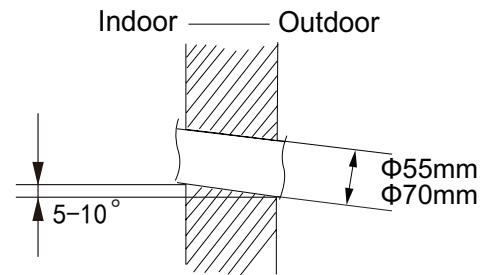

Fig. 2
- (2) When installation is finished, pull the mounting plate by hand to confirm whether it is fixed tightly. The force distribution among all screws should be uniform.
- (3) Drill a piping hole with a diameter of  $\Phi 55\text{mm}$  or  $\Phi 70\text{mm}$  at the selected outlet pipe position. To ensure smooth drainage, slant the piping hole on the wall slightly downward toward the outdoor side with a gradient of  $5-10^\circ$ . (As shown in Fig. 2)